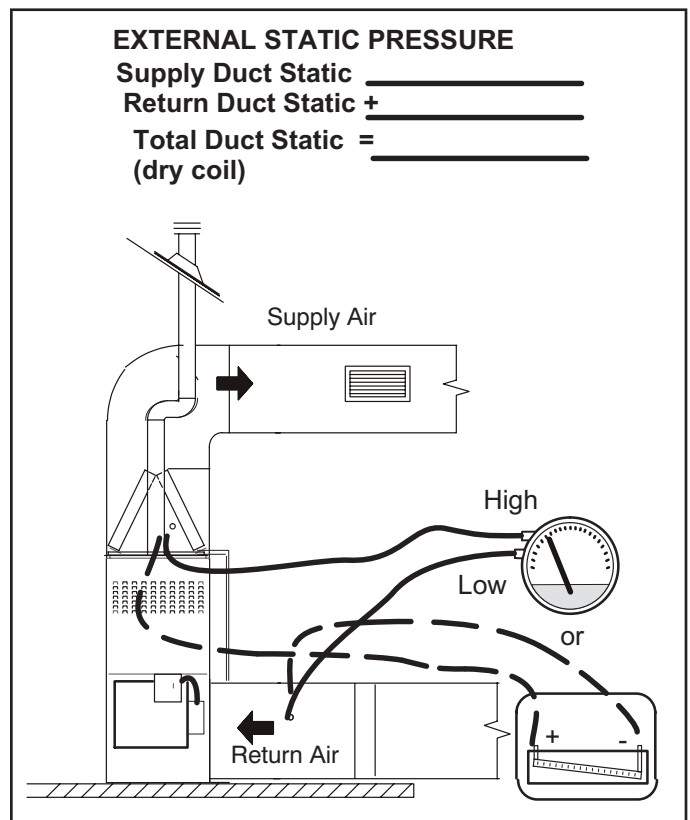

FIGURE 28
- 1 - Tap locations shown in FIGURE 28.